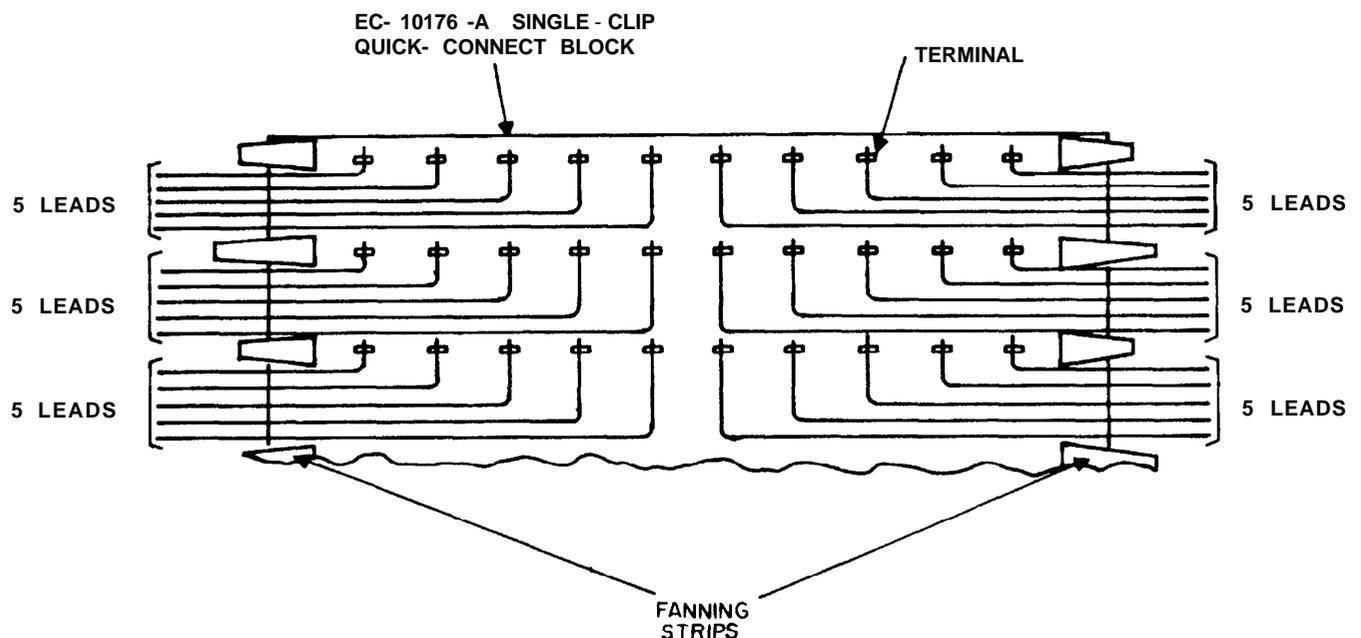

Figure 11 Dress of Jumpers on Single-Clip Quick-Connect Blocks – For Single-Wire Circuits Only.
6.01 Jumpers associated with single-wire circuits must be dressed as shown in Figure 11. To balance the jumper load as evenly as possible on both sides of each terminal block, the wires must enter the fanning strip nearest the terminal where each jumper is connected. This necessitates a theoretical dividing of the terminal block by the installer, so that the jumpers that are connected to